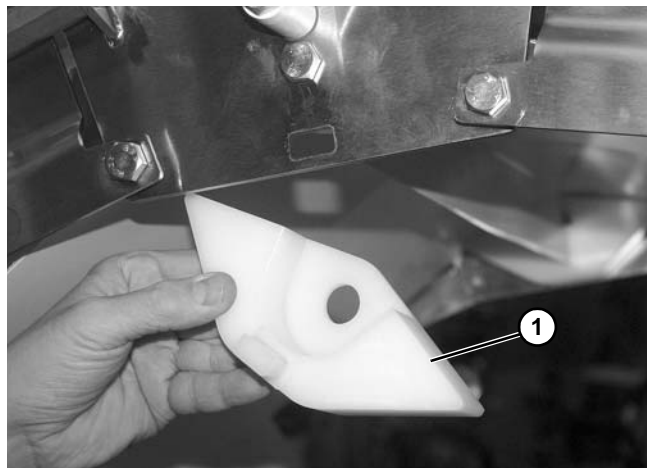

Figure 199
2. Remove roller guard (**Figure 199, item 1**).